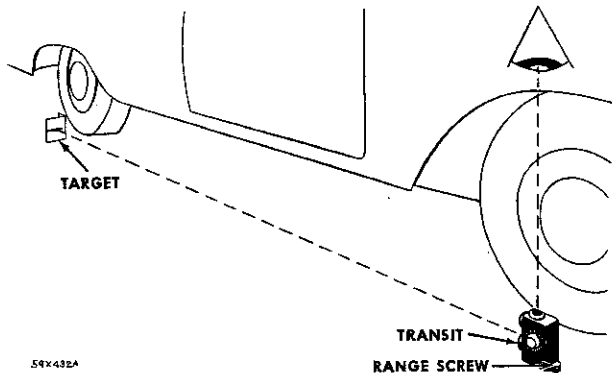

Fig. 106—Determining the Slope of the Floor (Typical)
(1) Place the transit on the floor in line with a vertical center line of the right front wheel (Fig. 106). Place the split image target in like position at the right rear wheel.
(2) Adjust the range screw on the transit until the target split image coincides or merges into one unbroken line.